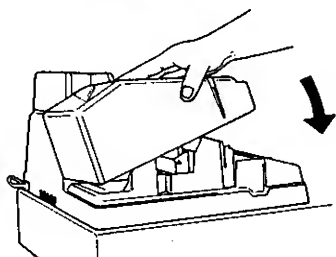

Fig. 4
5. When replenishing of ink is completed, attach the Paper Cover (Fig. 4) and turn the Mode Lock to the "REG" position.